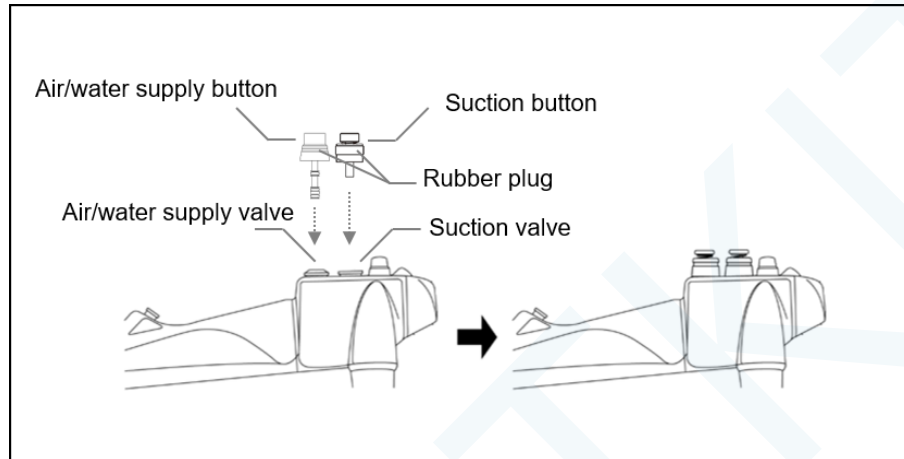

Figure 3.13
1. Install the air/water supply button on the air/water port of the endoscope (Figure 3.13).